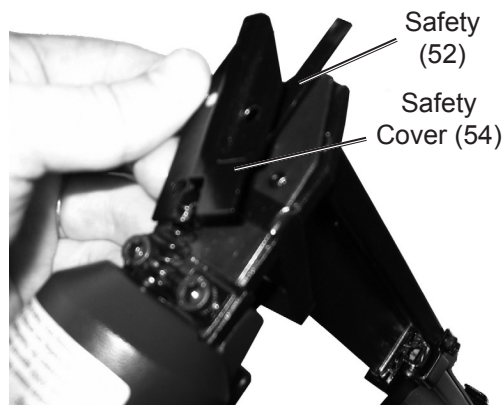

FIGURE 2
3. Lift the Safety Cover off the top of the Nailer/Stapler - see *Figure 2*.